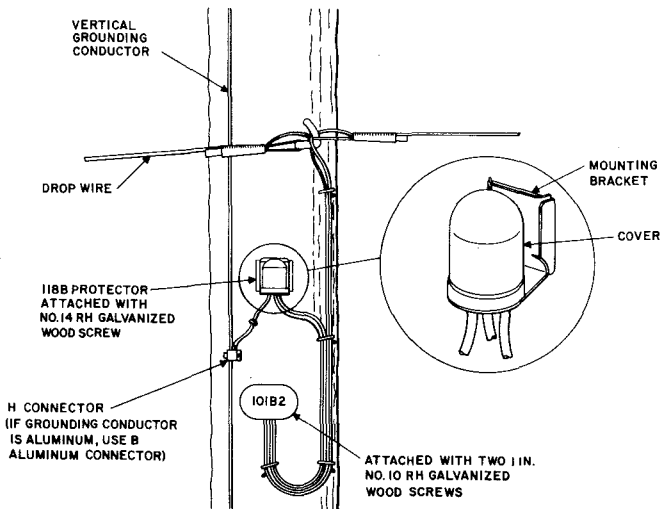
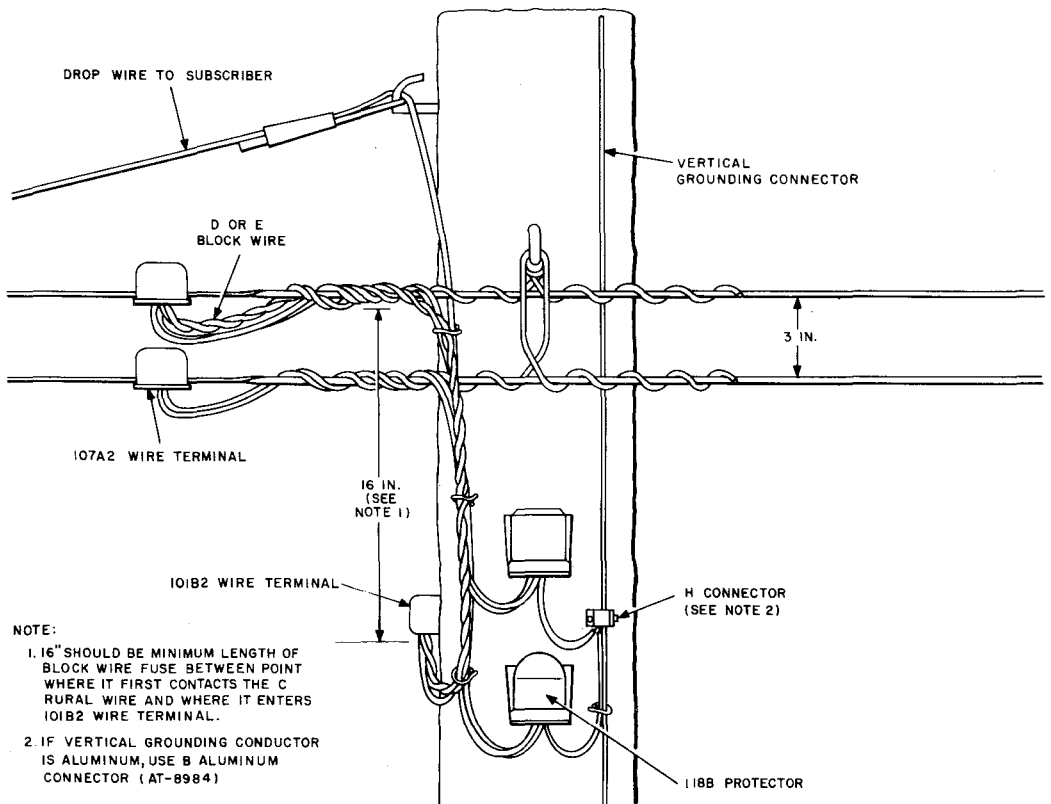

Fig. 75—118B Protector Connected to Drop Wire
Fig. 76—118B Protector Connected to Rural Wires
12.02 The 118B protectors are connected to drop wires (Fig. 75) or rural wires (Fig. 76) as specified by detailed plans or telephone company engineering or supervisory instructions. The 118B protector provides protection for a single drop wire or rural wire. The length of a drop wire or rural wire run may dictate the installation of additional protectors on the same drop wire or rural wire.